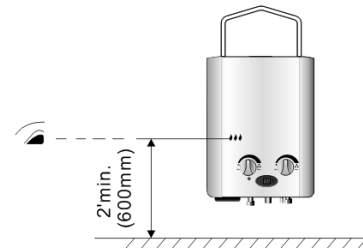

Fig.5
- The flame-check window of the water heater shall be at the level of eyes (suggested height is about 0.6m above the floor, Fig.5), in case of any inflammable accidents.